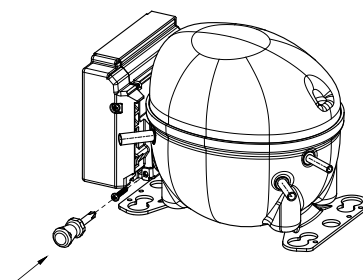

Figure 3-24: Step 4 - Screw the inverter
- The screws shown in Figure 3-24 are for reference only to indicate the fastening positions. Secure the inverter using a screw or washer with a minimum diameter of 10 mm. Tighten to a torque of 0.8 – 1.2 Nm.